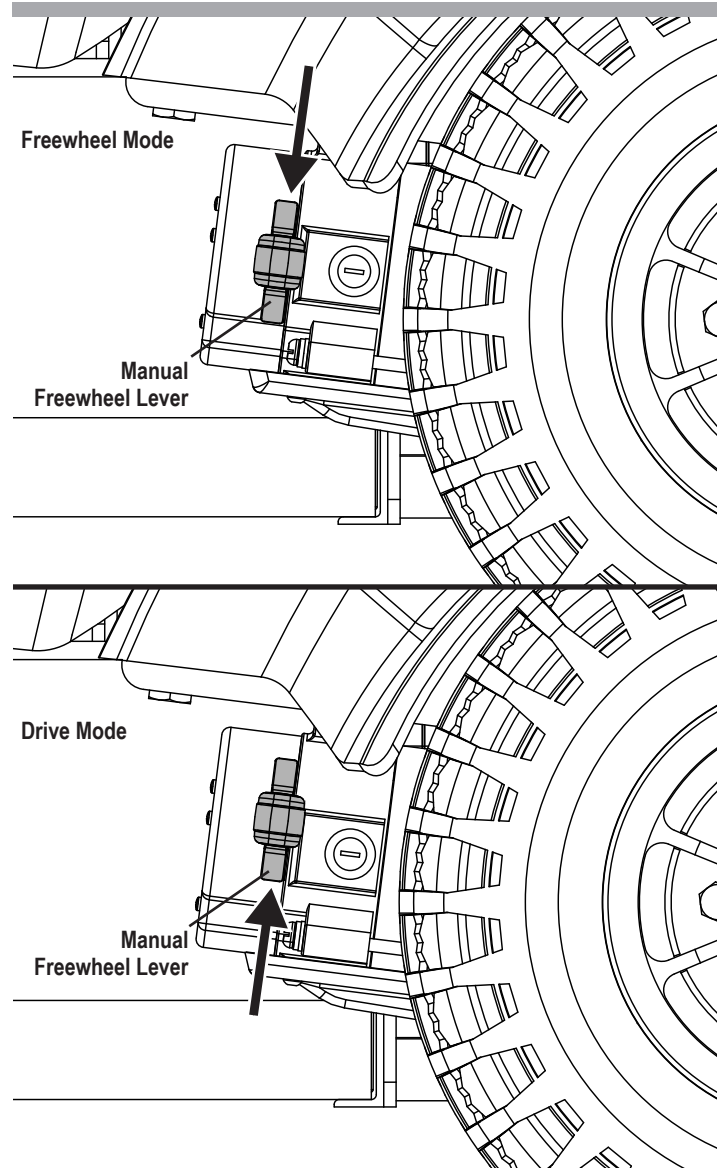

Figure 2. Manual Freewheel Lever Operation
1. Push down both manual freewheel levers for freewheel mode (drive motor disengaged). **See figure 2.**
2. Pull up both manual freewheel levers for drive mode (drive motor engaged). **See figure 2.**